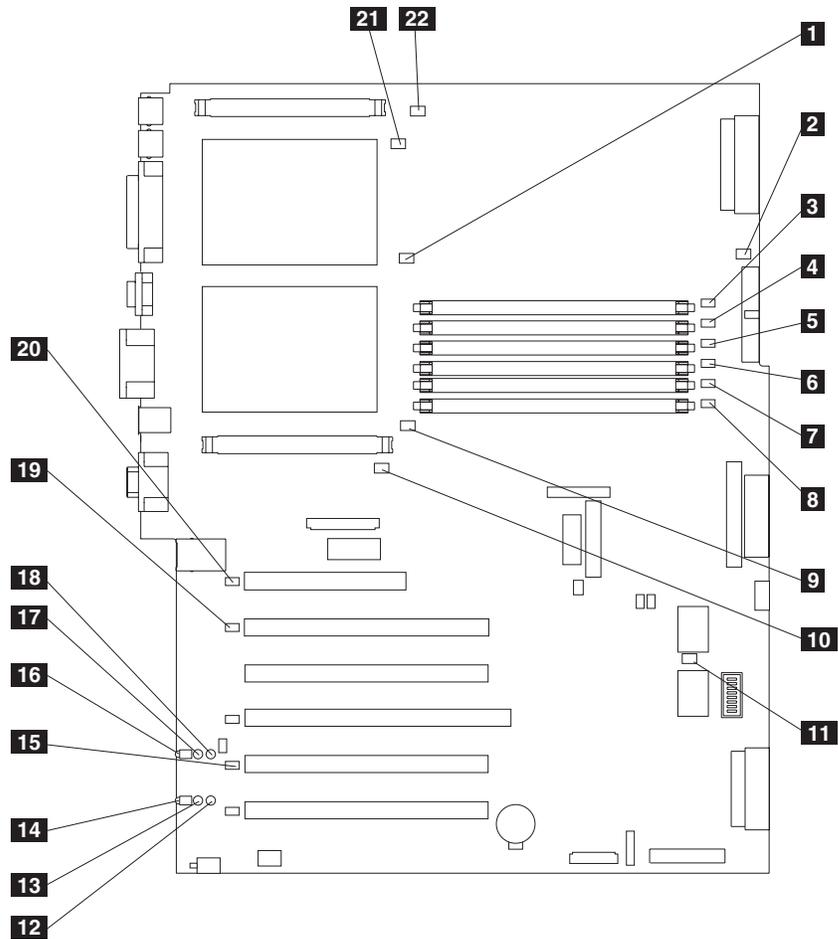

Figure 12. System-board LED locations
- 4 PCI-X slot 5 attention LED:** This LED is disabled on the engine. It is shown only for reference. For an illustration showing this LED on the system board, see Figure 12 on page 69.
- 5 PCI-X slot 6 attention LED:** This LED is disabled on the engine. It is shown only for reference. For an illustration showing this LED on the system board, see Figure 12 on page 69.
Figure 12 on page 69 identifies system-board LEDs. You might need to refer to this figure when troubleshooting a problem.